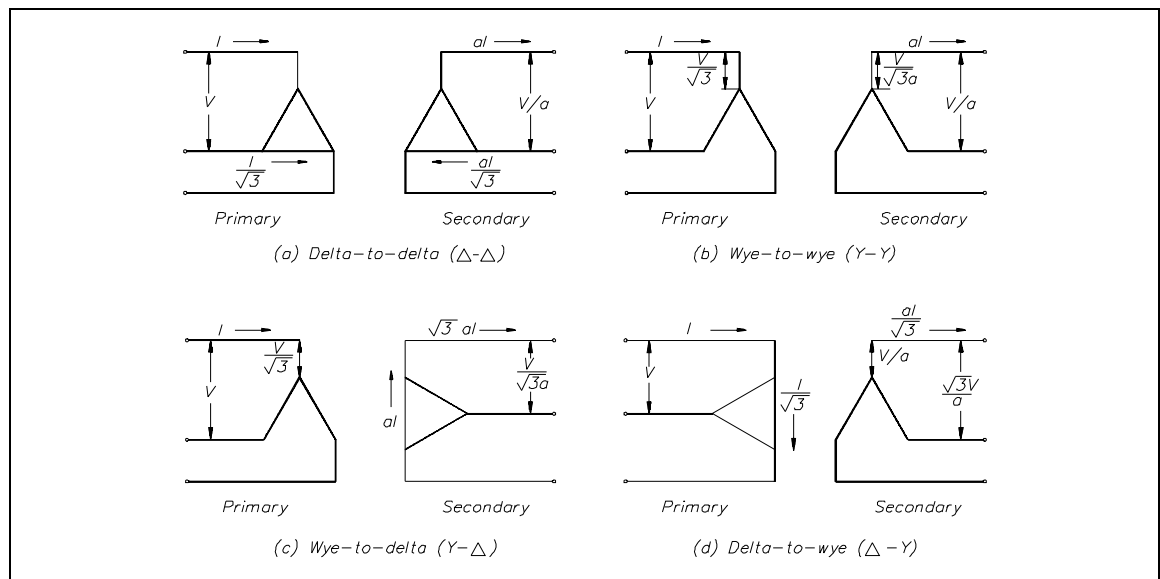

Figure 5 3 ϕ Transformer Connections
A three-phase transformer may have three separate but identical single-phase (1 ϕ) transformers or a single 3 ϕ unit containing three-phase windings. The transformer windings may be connected to form a 3 ϕ bank in any of four different ways (Figure 5).
Figure 5 shows the voltages and currents in terms of applied line voltage (V) and line current (I), where the turns ratio (a) is equal to one. Voltage and current ratings of the individual transformers depend on the connections (Figure 5) and are indicated by Table 1 for convenience of calculations.